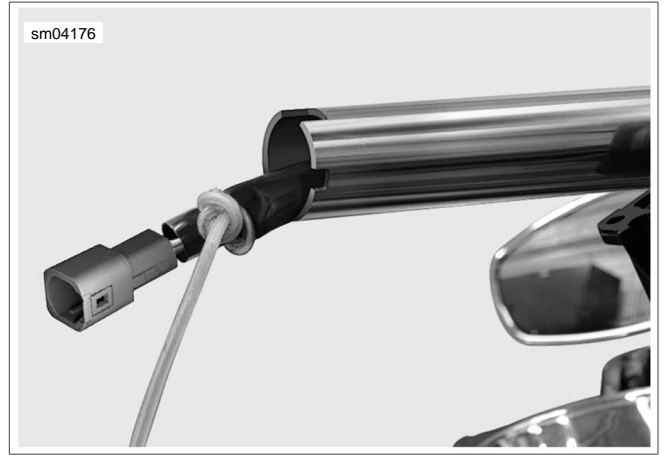

Figure 4-24. Fix Mechanics Wire to Twist Grip Sensor Jumper Harness
- See Figure 4-24. Securely attach mechanics wire to jumper harness inboard of twist grip sensor connector pin housing. For best results, install mechanics wire on conduit to keep it from bunching up inside handlebar when pulled.